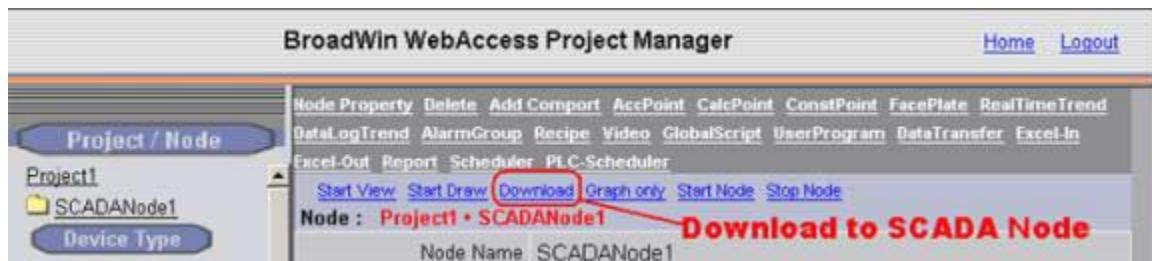

Figure 3-9 - SCADA Node Main page (Main.asp) - Download
1. Select the SCADA Node under your Project Name in the Project/Node list (Figure 3-9).
5. From Project Manager select Start node (Figure 3-9).